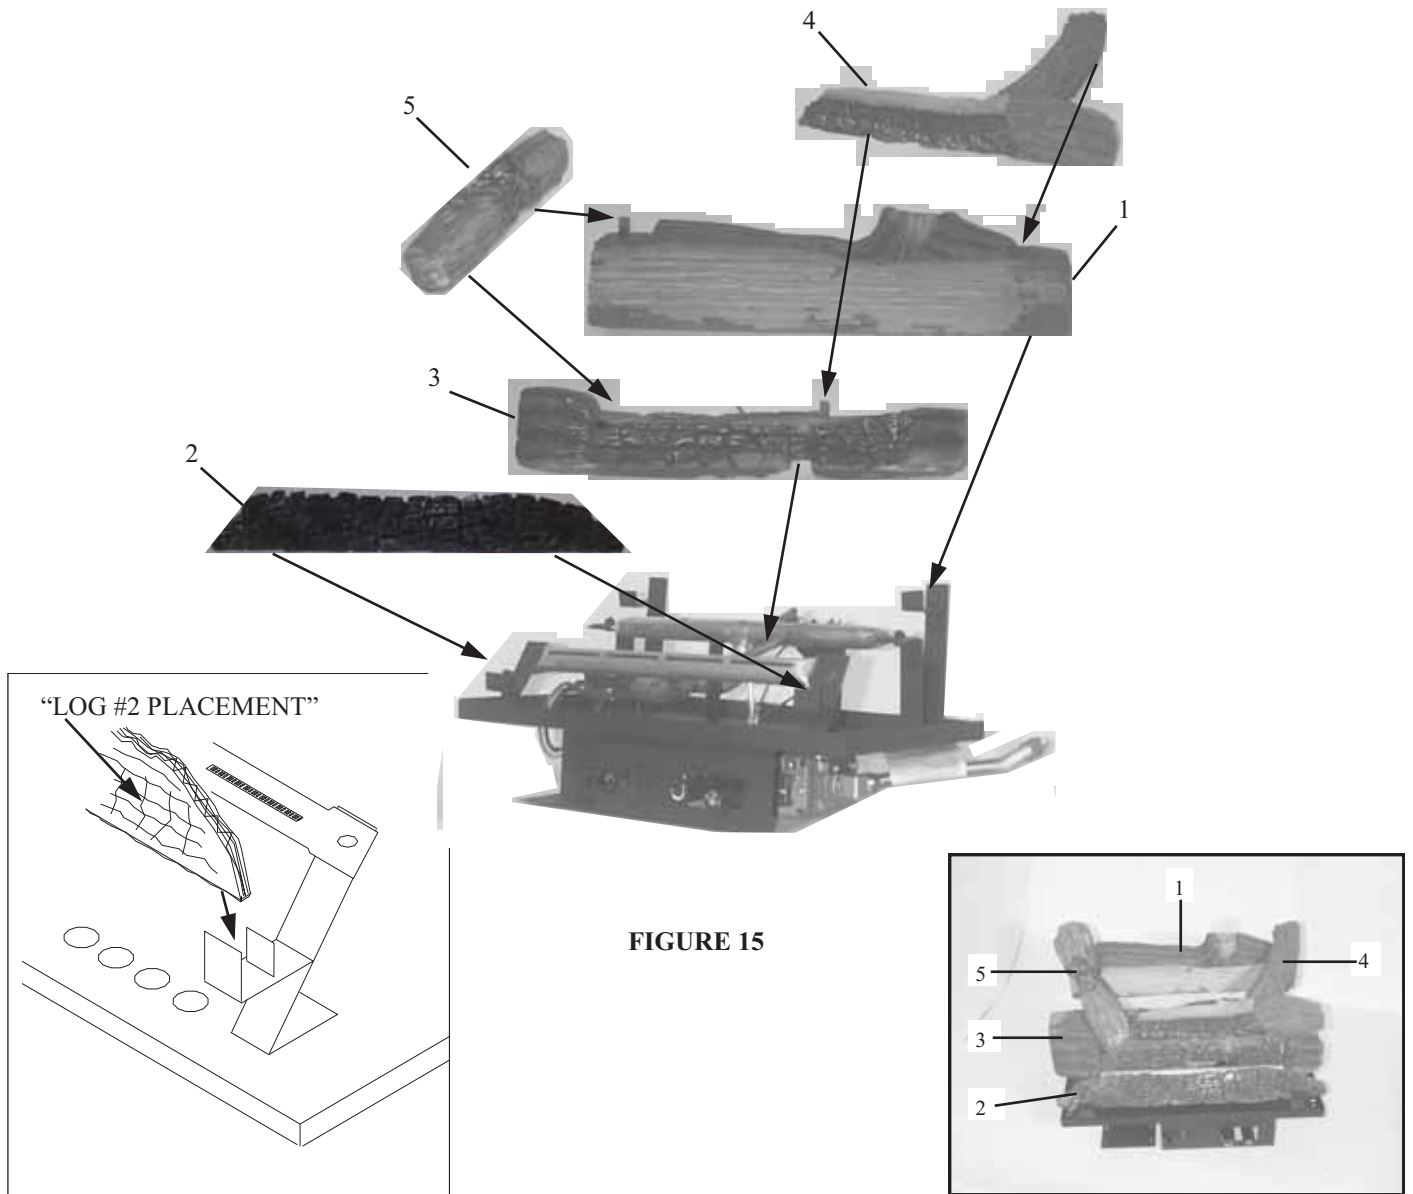

FIGURE 15
1. Carefully insert logs through opening in top of unit, placing logs on base as described on (Page 15, figure 15).
POSITIONING LOGS IS VERY CRITICAL, (SEE FIGURE 15) LOG PLACEMENT FOR LOG SET
- If you remove logs for cleaning, refer to *Installing Gas Logs*. For **Townsend II** (Figure 13, page 13). For **Hepplewhite** (Figure 15, page 15), to properly replace logs.